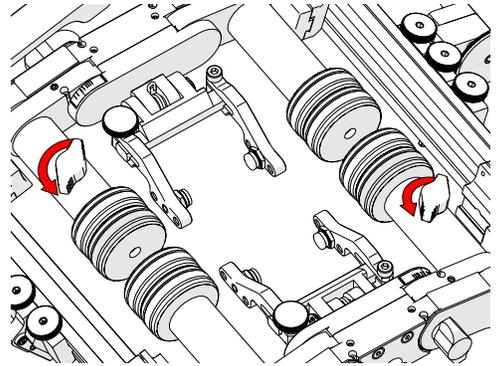

Fig. 23 - Deactivate brake
2. Rotate the two red knobs anti-clockwise to deactivate system braking (Fig. 23).